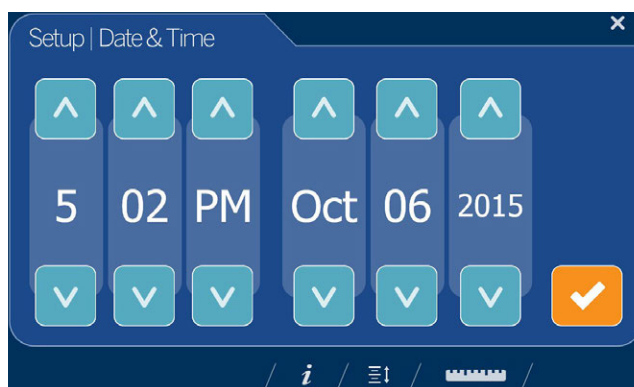

Figure 2-5. Date and Time
1. Select **Time Zone**, Figure 2-5. The current time zone displays.